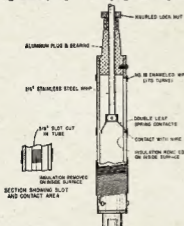
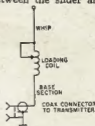

Fig. 1—Cutaway drawing showing the construction of the loading coil. The dimensions can be varied to suit materials available.
Fig. 2—Electrical circuit of the whip antenna with loading coil.
The balanced mixer stage (Fig. 2) uses a 6BU8, which has worked very well and gives a conversion gain of about five. Balancing controls were
Fig. 2—Crystal sideband filter, balanced-mixer and sideband-selector circuit. This section fits between the balanced modulator of Fig. 1 and the 2.250 Kc. mixer of the "Sideband Package" circuit. The sideband selector replaces the original system in the "Package". Resistances are in ohms, and fixed resistors are $\frac{1}{2}$ watt unless indicated otherwise. SM indicates silver-mica capacitor. Other fixed capacitors not listed below are disc ceramic.
- L6—Same as L5 (Fig. 1).
The construction of the coil will present no problem to the Ham having access to a small machine shop. Because each Ham may have other sizes and dimensions of material available than those shown in the cutaway view, Fig. 1, drawings and dimensions of the individual pieces will not be shown.
spaced 120 degrees apart. The ends of the wire are fastened under one of the screws at each end of the coil. The electrical circuit of the antenna is shown in Fig. 2.